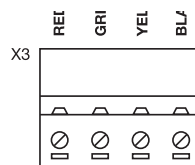

Fig 6
- Connect the four colour-coded wires to the Sensor Interface plug, X3. (see Fig 6).